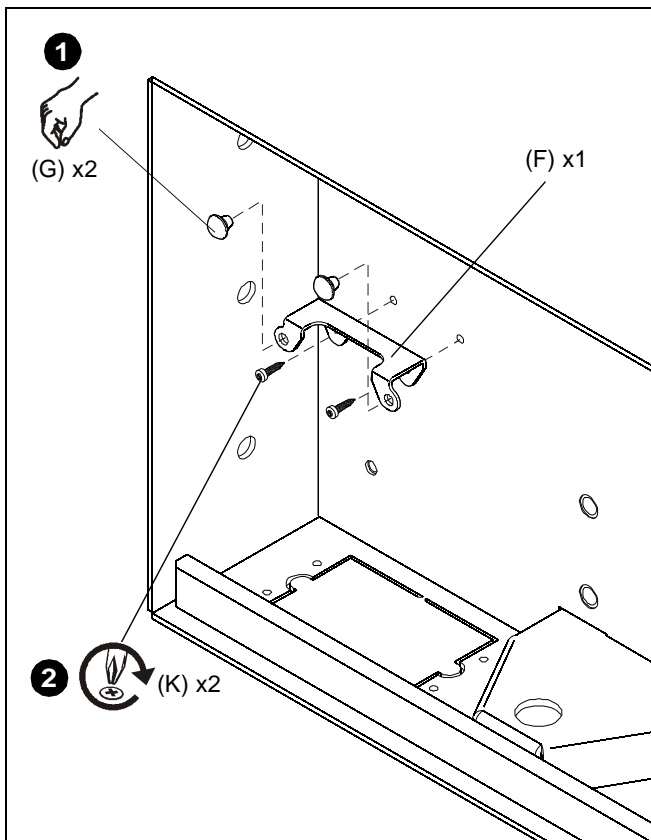

Figure 1
1. Install two bumpers (G) to bumper mounting bracket (F). (See Figure 1)
2. Secure bumper mounting bracket (F) to FAC501 onto the side the arm will be located on when retracted using two Phillips pan head screws (K). (See Figure 1)